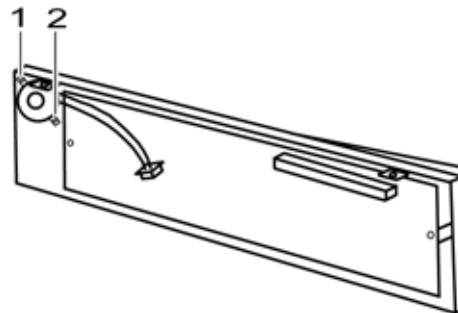

Figure 20: Speaker Removal
10. Remove the two screws holding the speaker to the front case. See Figure 20 items 1 and 2.